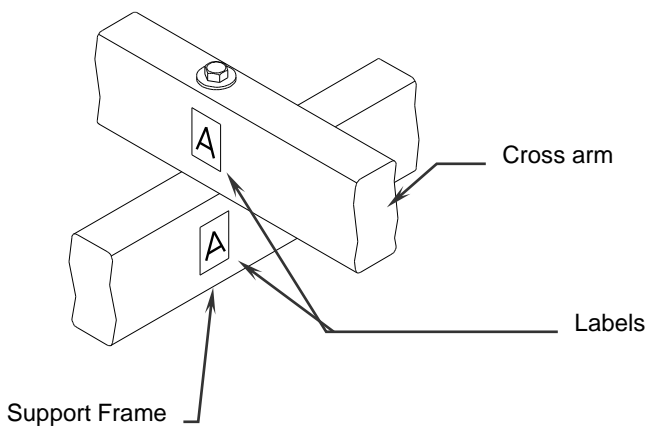

Figure 11: Cross Arm Support Frame Labeling
8. Repeat procedure with labels B, C and D. See Figure 11, Cross Arm Support Frame Labeling. Verify that all connections are tight and secure.